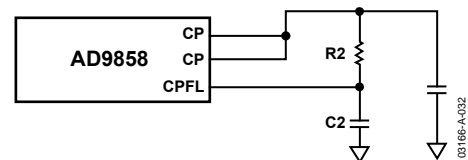

Figure 29. Charge Pump to Loop Filter Connection
The charge pump includes a fast locking algorithm that helps to overcome the traditional limitations of PLLs with regard to frequency switching time. The fast locking algorithm works in conjunction with the loop filter shown in Figure 29 to provide extremely fast frequency switching performance.
The level of frequency lock accuracy aimed for is typically referred to as the lock range. When the frequency is within the lock range, the time required to achieve phase lock can be determined by standard PLL transient analysis methods. The charge pump current sources associated with the frequency detect mode are connected to Pin 64 (CPFL), and the closed-loop current sources are connected to Pin 65 (CP) and Pin 66 (CP). Pin 64 is connected directly to the loop filter zero compensation capacitor, as shown in Figure 29. This connection allows the smoothest transition from the frequency detect mode to the closed-loop modes and enables faster overall switching times. Pin 65 and Pin 66 are connected to the loop filter in the conventional manner.